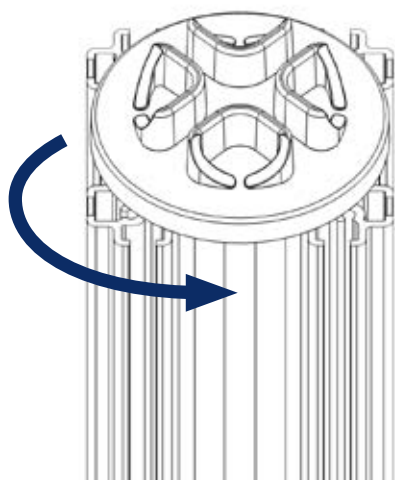

Fig. 6
- ▶ Remove filter lid by turning anti-clockwise (Fig. 6).